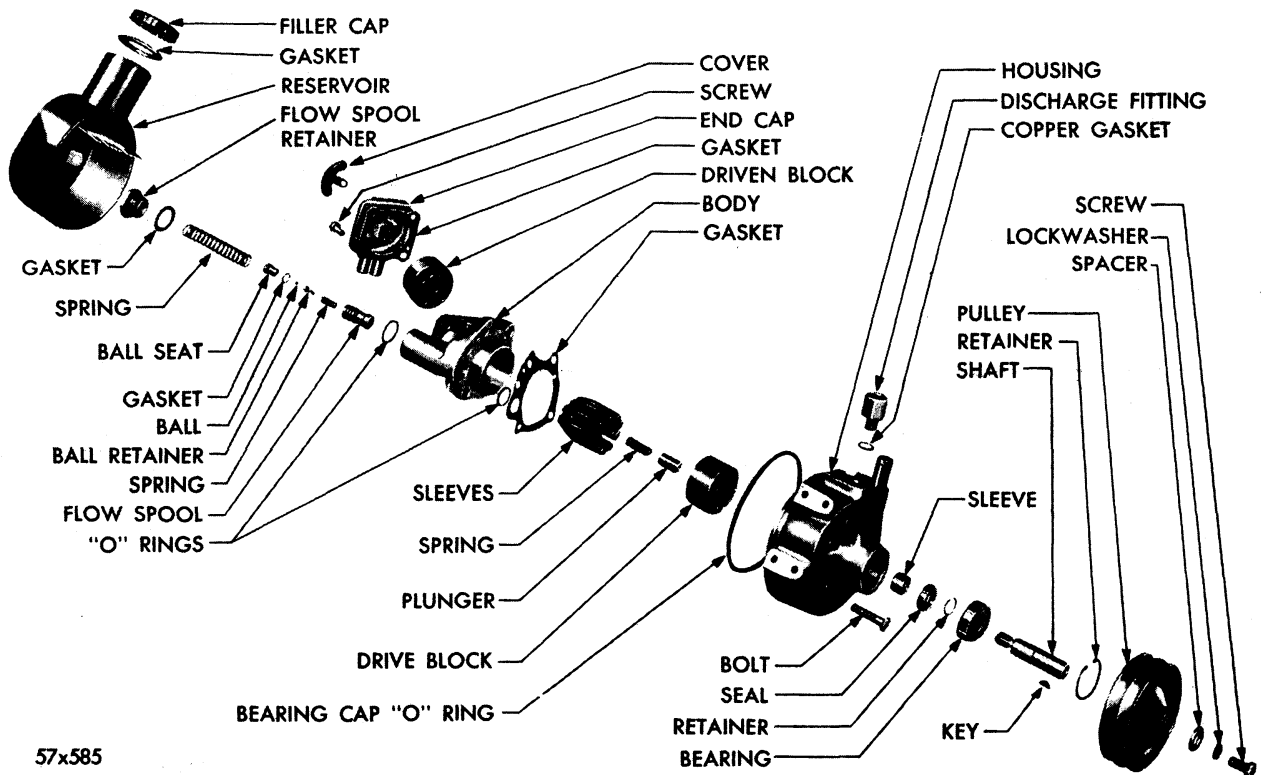

Fig. 37—Power Steering Oil Pump (Disassembled View)
20. REMOVAL AND INSTALLATION (Fig. 37)